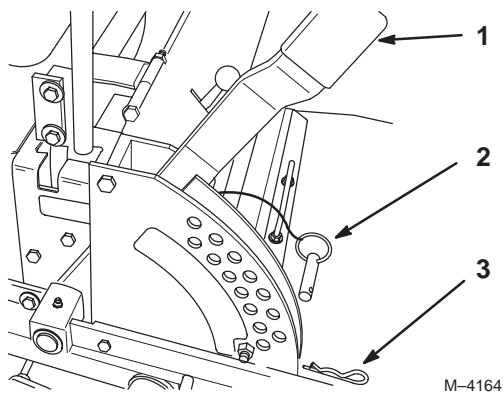

Figure 20
1. Raise the height-of-cut lever to the transport position (also the 5 in. (127 mm) cutting height position) (Fig. 20).
2. To adjust, remove hairpin cotter and clevis pin from height-of-cut bracket (Fig. 20).
3. Select hole in height-of-cut bracket corresponding to the height-of-cut desired and, insert clevis pin (Fig. 20).
4. Secure clevis pin with hairpin cotter (Fig. 20).